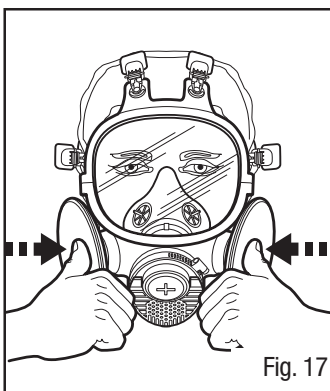

Fig. 17
1. Place your thumbs onto the center portion of the filters, restricting airflow through filters and inhale gently. If you feel facepiece collapse slightly and pull closer to your face with no leaks between the face and facepiece, a proper seal has been obtained (Fig. 17).